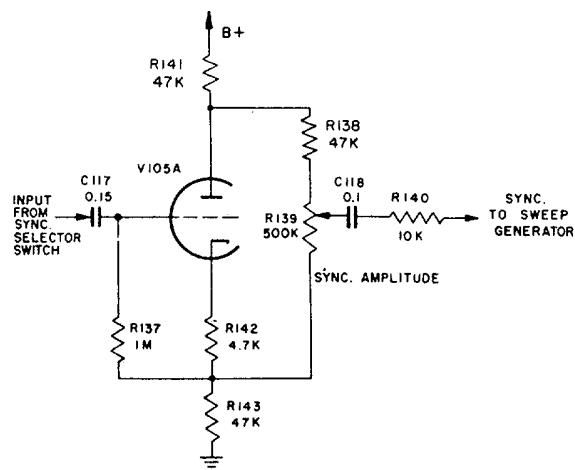

Figure 2-3. Synchronization Amplifier, Simplified Schematic
f. SYNCHRONIZATION AMPLIFIER.-The output of the SYNC SELECTOR switch is fed through capacitor C-117 to the grid of the synchronization amplifier, V-105A, as shown in figure 2-3, a partial schematic diagram of the circuit. The grid of V-105A is returned to the junction of R-142, R-139, and R-143 through R-137.